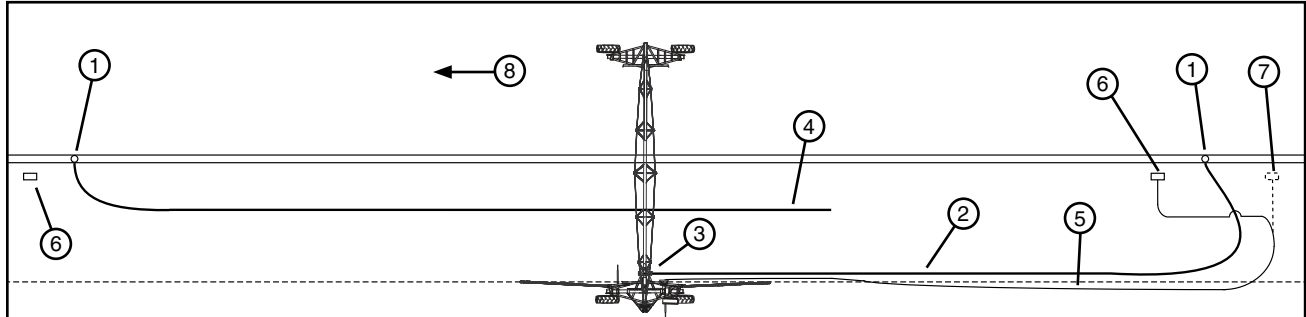

Figure 53-1 1. Shut Off Valve 3. Tee Inlet 5. Electric Cord 7. Alternate Power Pedestal and Electric Cord Position
21. As the machine approaches the end of field/hose stop post, Stop the machine and close the water shut off valve for the first hose. See figure 53-1.